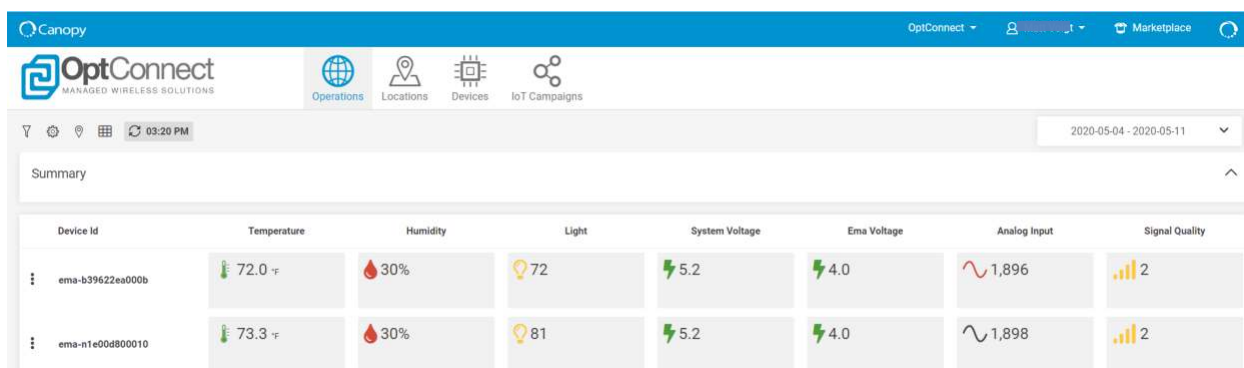

Figure 38
2. Navigate to <https://portal.my-canopy.com> and login to the portal. The landing page should look similar to *Figure 38*. All of the ema:Play devices associated with this account that have connected to the servers will be listed under the “Operations” tab.